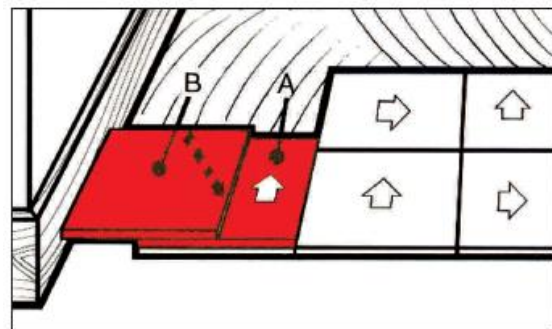

Fig 8.
2.11 Place another tile **(B)** right against the wall and on top of tile **(A)**. **Refer to Fig 8.**